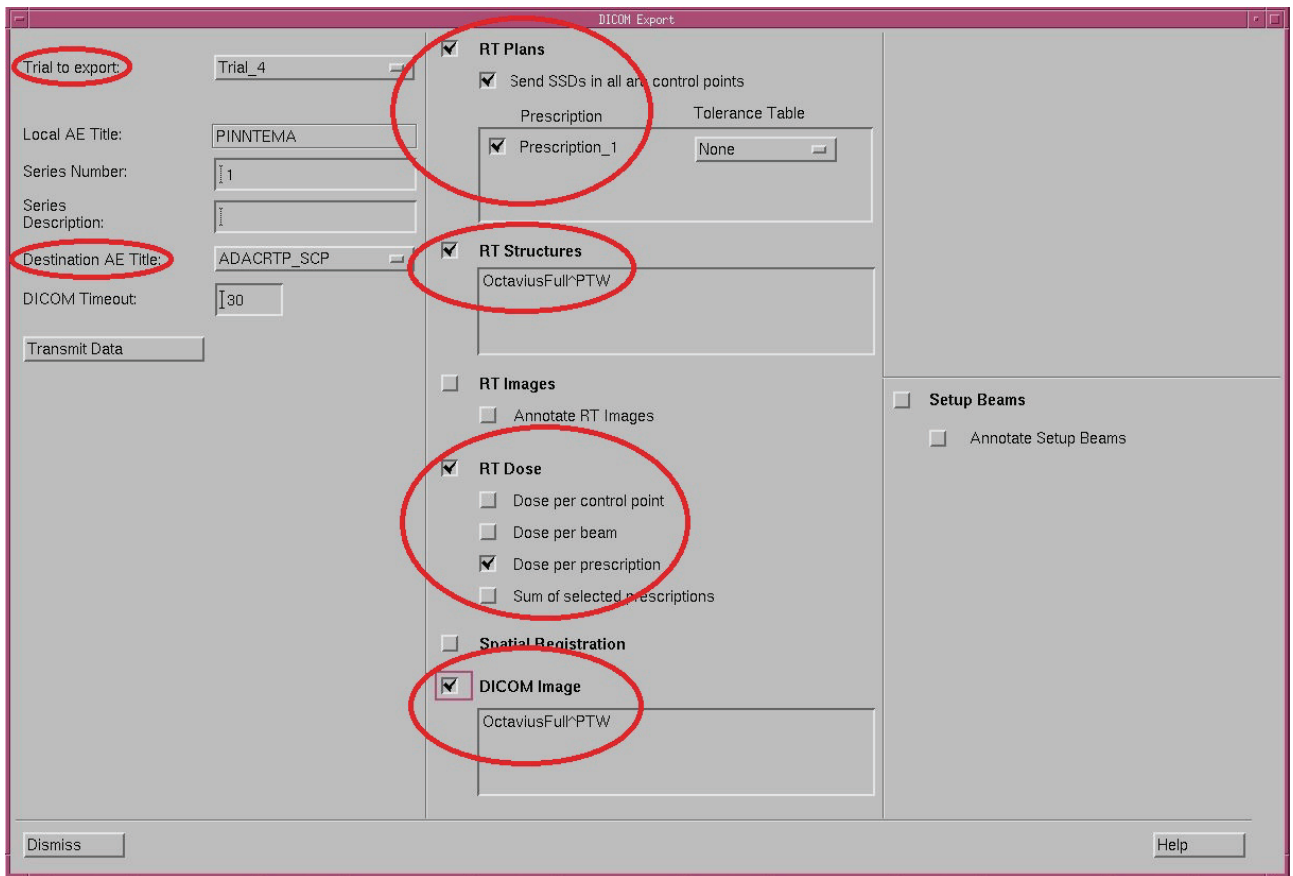

Fig. 4.10 DICOM Export window
6. In the **DICOM Export** window (Figure 4.10), confirm the trial to export, and select